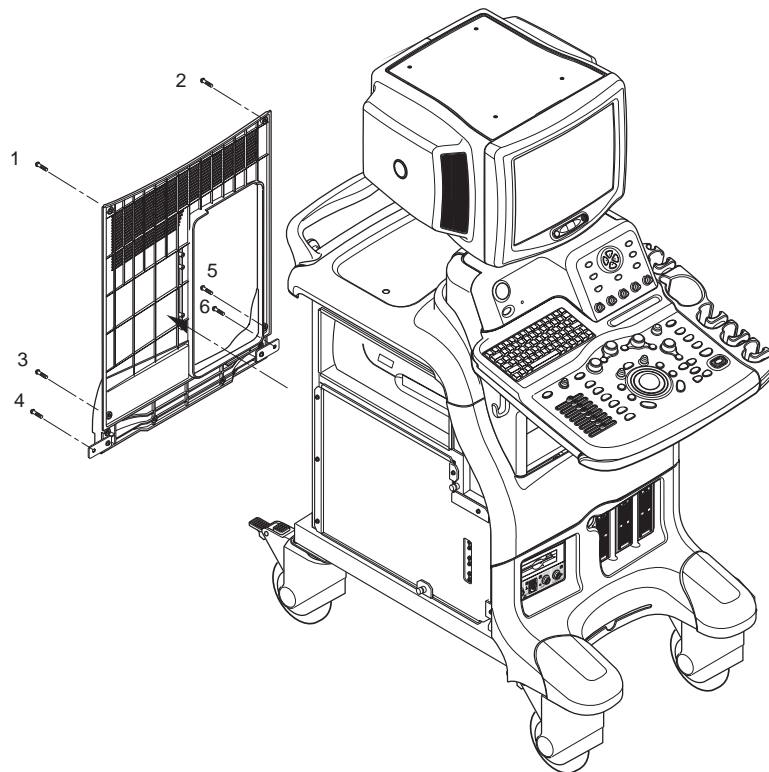

Figure 8-45 Removing the rear cover
- 4.) Remove the Rear Cover. Refer to Figure 8-45.